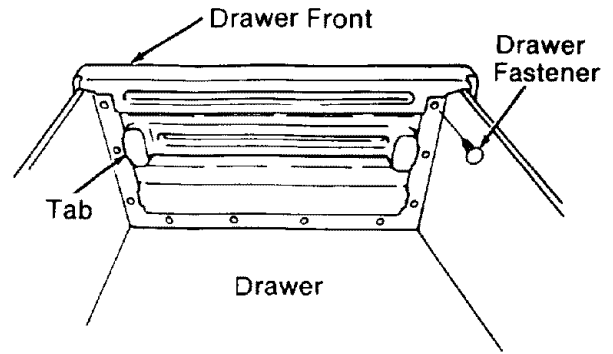

Fig. 45
3. Push a plastic *drawer fastener* into each of the holes to hold the *drawers* together. (Figure 45)
2. Slide the *drawer fronts* onto the *drawers*. Make sure that the tabs on the plastic *drawer fronts* slide over the metal *drawers* to help hold them in place. (Figure 45)